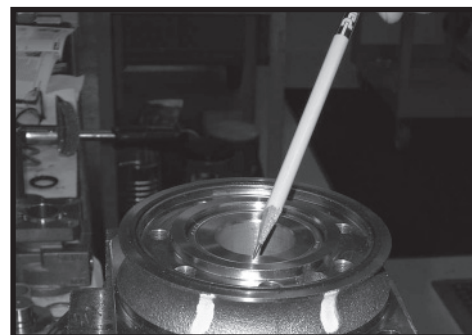

Figure 48
**CAUTION:** The outer bearing (19) is not lubricated by the system's hydraulic fluid. Be sure it is thoroughly packed with the recommended grease, Parker Gear grease specification #045236, E/M Lubricant #K-70M.
**NOTE:** The coupling shaft (12) will be flush or just below the housing wear surface on Small Frame, Series TC, TS, TB, TE & TJ Torqmotors™ when properly seated while the coupling shaft (12) on Large Frame, Series TF, TL, TG, or TH Torqmotors™ will be approximately .10 inch (2.54 mm) below the housing wear plate surface to allow the assembly of thrust bearing (11). The coupling shaft must rotate smoothly on the thrust bearing package. SEE FIGURE 48.